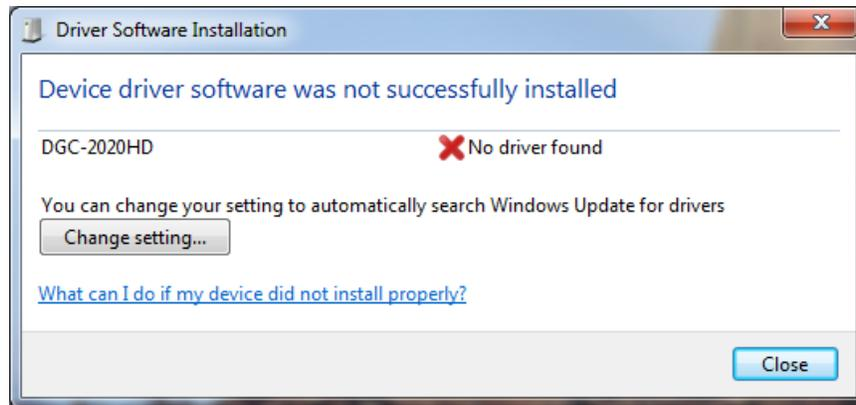

Figure 9-1. Driver Software Installation
- Step 1. If the message in Figure 9-1 is shown, close all programs and restart the computer.